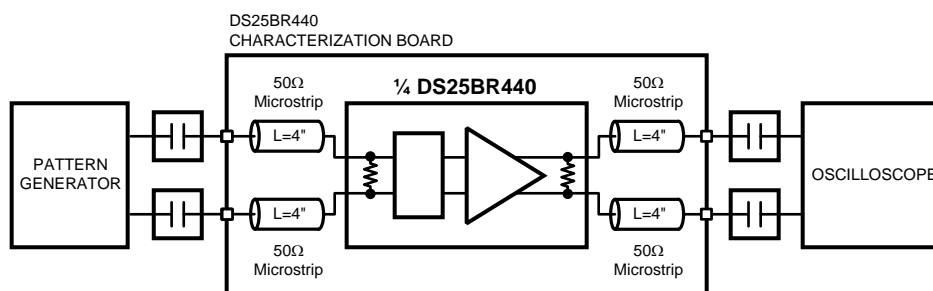

Figure 5. Jitter Performance Test Circuit
JITTER PERFORMANCE WITH EQ = Off, PE = Off (3) (Figure 5)